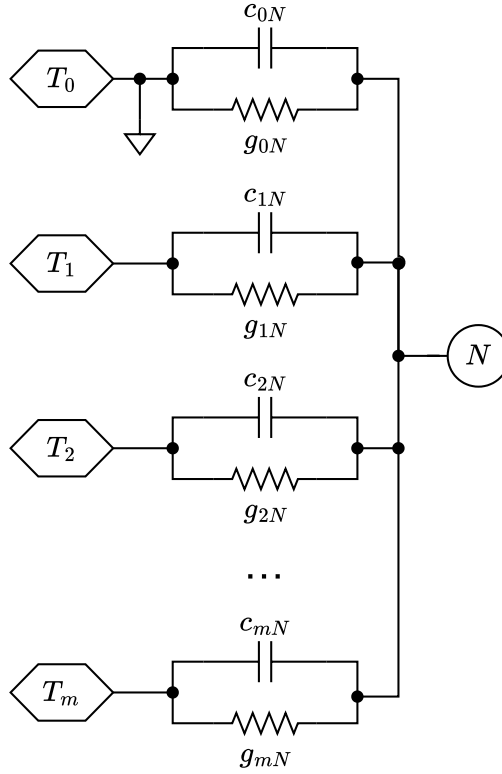

Figure 38: N -terminal star network
- terminals labeled from 0 to $N-1$ (in Figure 38, m is used instead of $N-1$)